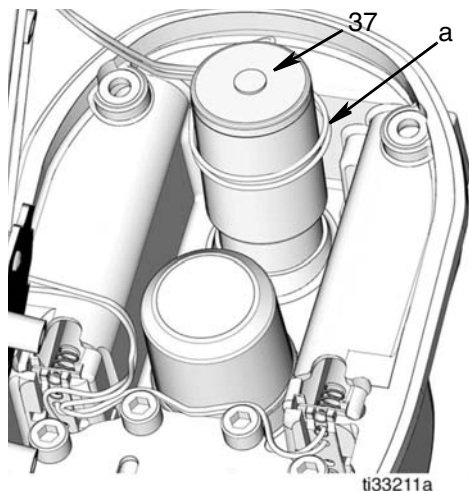

FIG. 6
- Wrap the red and white solenoid wire (a) around the solenoid (37) (FIG. 6). Pulse and SDP Models only.